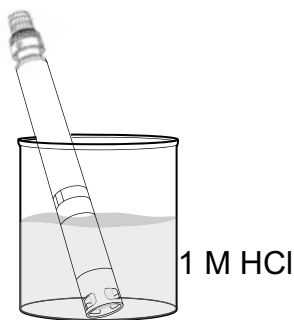

Figure 74 Cleaning the pH and pH/ORP sensor with hydrochloric acid
1. Soak the sensor for 30 to 60 minutes in one molar (1 M) HCl (Figure 74). HCl reagent can be purchased from most chemical or laboratory distributors. To prevent injury, carefully follow the HCl manufacturer's instructions. If HCl is not available, soak in white vinegar.